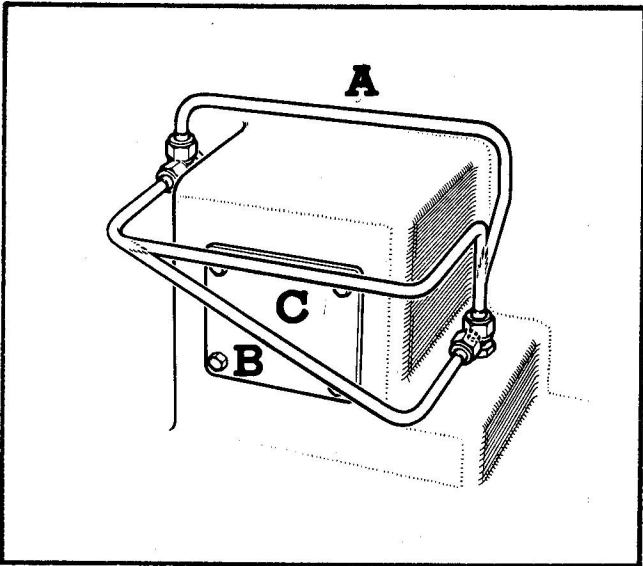

Figure 31 Routing of Tubing
86 A tubing line may be installed by several different routes, but there is usually a preferred path. See Figure 31 for a sample installation giving alternate routes. The reason for using tube (B) as the preferred route is as follows: